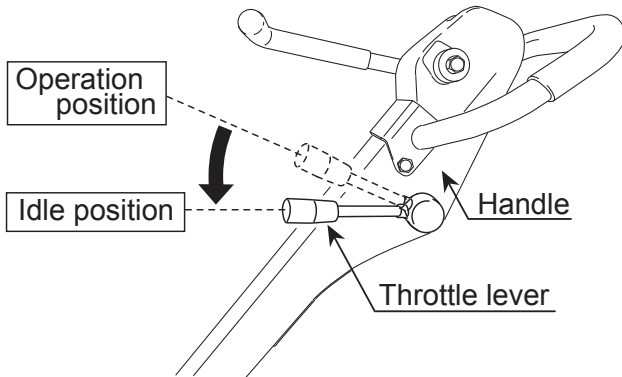

Figure 22. Throttle Lever (Idle)
1. Move the throttle lever to the *idle* position (Figure 22) and run the engine for three minutes at low speed.